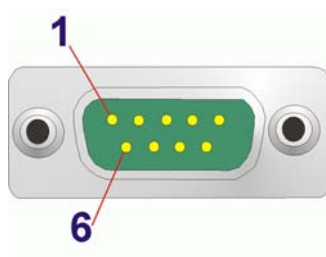

Figure 3-24: Serial Port Pinouts
- CN Pinouts:** See **Table 3-25** and **Figure 3-24**